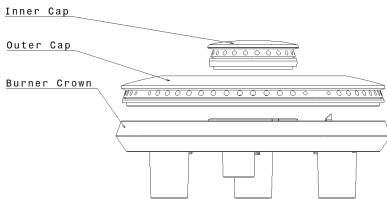

Fig. 13
- When cleaning the burner, ensure that all the flame ports, injector hole and other holes are free of any blockage. (Fig. 13&14)